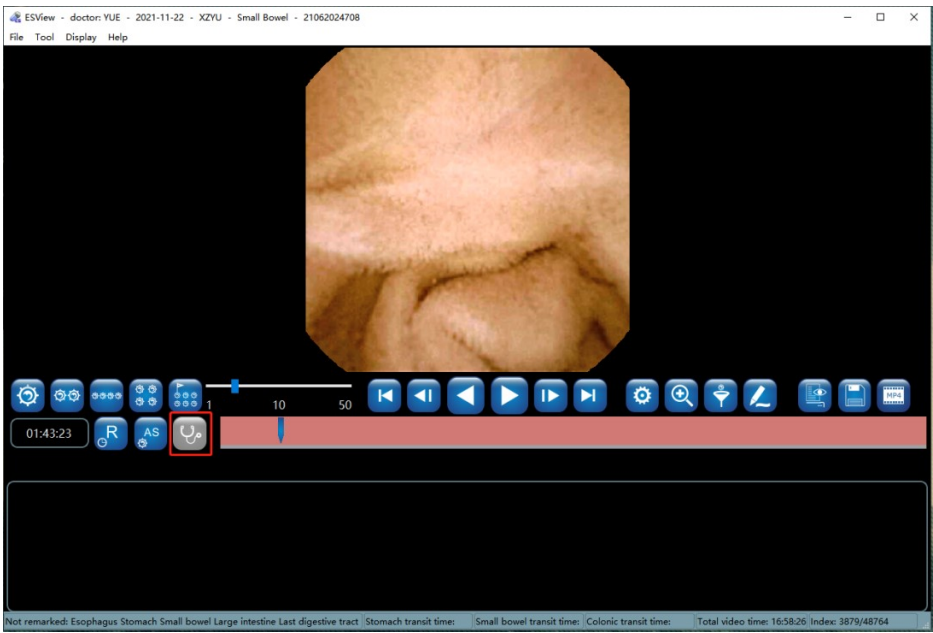

Figure 4-45: NaviCam ProScan function is enabled
1. If the NaviCam ProScan function is not enabled, there will be no ProScan icon displayed on the main interface of ESView. If the NaviCam ProScan function is enabled but the data has not been automatically identified and processed by ProScan, the ProScan icon can be displayed by selecting "File" → "Open Video". The icon will appear gray, as shown in Figure 4-45. Only after the above three conditions are met, the ProScan icon displayed by opening the data will turn blue.